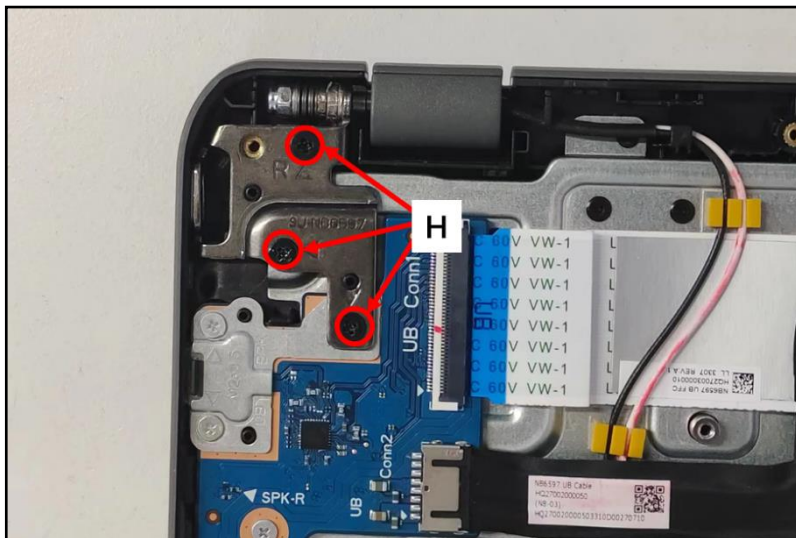

Figure 3-101. Replacing the USB Board
8. Install three (3) screws (H) to secure the right LCD hinge in place (Figure 3-101).